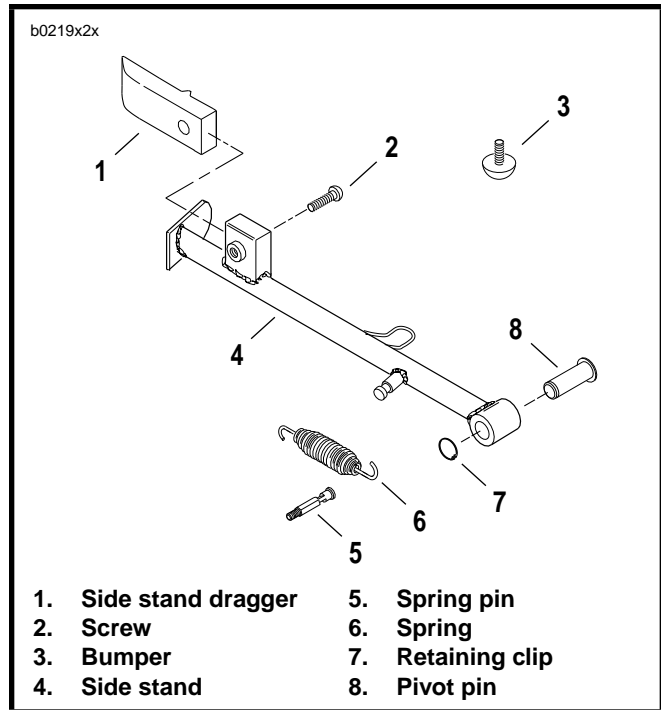

Figure 2-68. Side Stand
1. See Figure 2-68. Remove spring (6) from side stand and spring pin (5).
2. Remove retaining clip (7) and pivot pin (8). Detach side stand from frame.
3. Remove screw (2) and side stand dragger (1).
4. Remove bumper (3) from frame.
1. See Figure 2-68. Attach bumper (3) to frame.
2. Attach side stand dragger (1) to side stand with screw (2).
3. Install side stand using pivot pin (8) and retaining clip (7).
4. Connect spring (6) to side stand and spring pin (5).